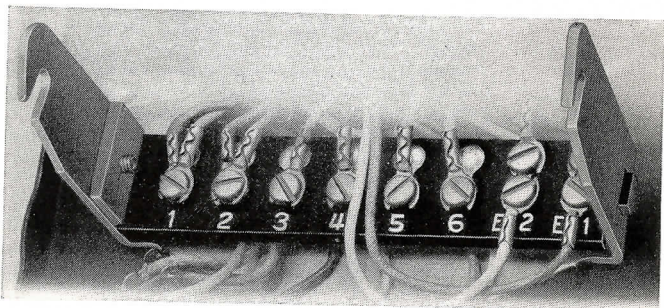

Fig. 4—P-338886 Terminal Strip Assembly
Note: A P-347015 terminal strip and key assembly includes a 584A key and the terminal strip shown in Fig. 4.
2.05 **Mounting and Housing:** The general information on mounting and housings covered in the description of 500-type sets also applies to 502-, 510-, and 511-type sets. In addition a terminal strip (see Fig. 4) has been provided for terminating the mounting cord or other connections. Mounting cord sizes are covered under individual set descriptions later in this section and the supplies section gives the code numbers of cords.